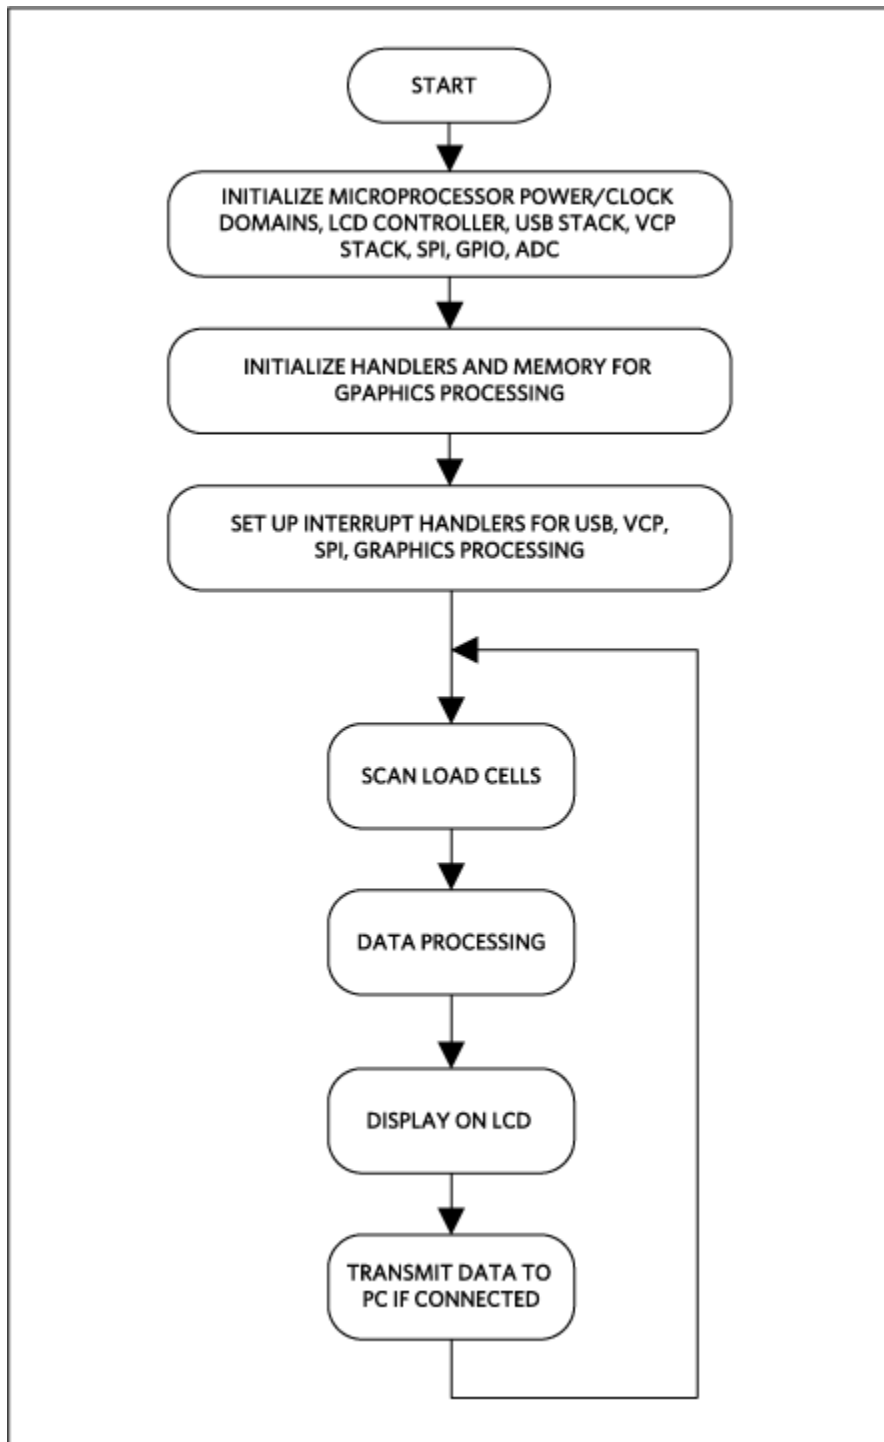

Figure 3.
**Figure 3** shows the MAXREFDES82# firmware main function flowchart. Refer to the source files for firmware details.